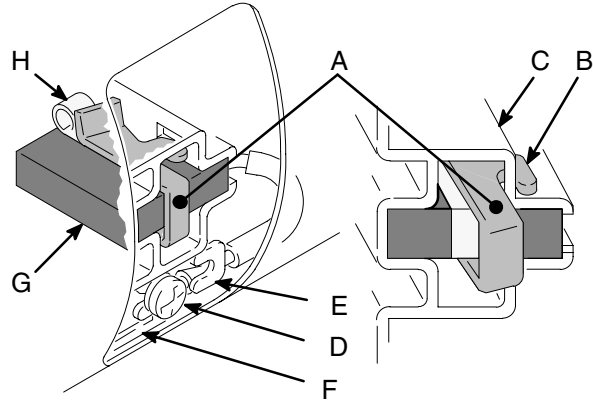

Fig. 3
5. Fig. 3. Push in 110816 spring clip (A) to release hooks (B) from brush holder (C). Pull out spring clip.
6. Fig. 3. Loosen terminal screw (D). Pull brush lead (E) away, leaving motor lead (F) in place. Remove brush (G) and spring (H).
9. Fig. 3. Slide brush lead (E) under washer of terminal screw (D) and tighten screw. Be sure motor lead (F) is connected at terminal screw.